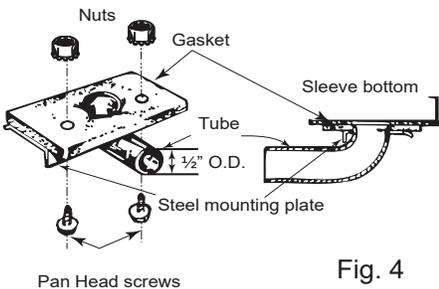

Fig. 4
3. The gasket should be placed on the steel mounting plate (with 1/2" hole) with screw holes in gasket lined up with screw holes in steel mounting plate. Then insert drain tube through gasket and steel mounting plate, as shown in Fig. 4.